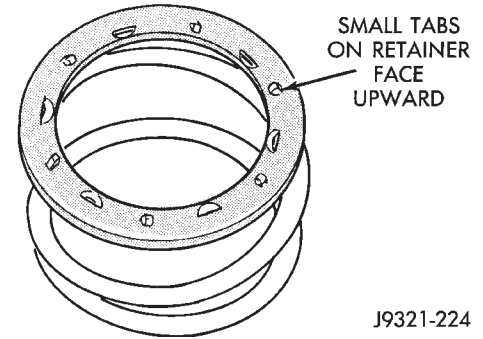

Fig. 163 Correct Spring Retainer Installed Position
- (6) Position spring retainer on top of piston spring (Fig. 163). **Make sure retainer is properly**